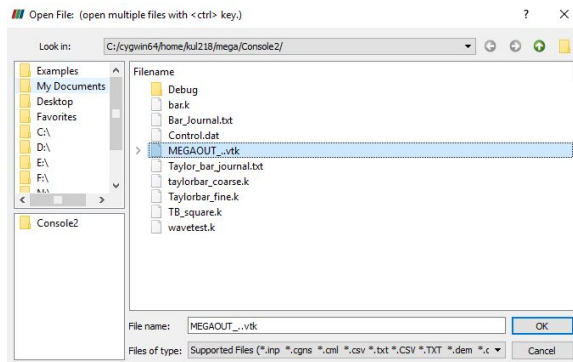

Figure 2: Open vtk file
Step 1 Open .vtk file.(Figure.2)